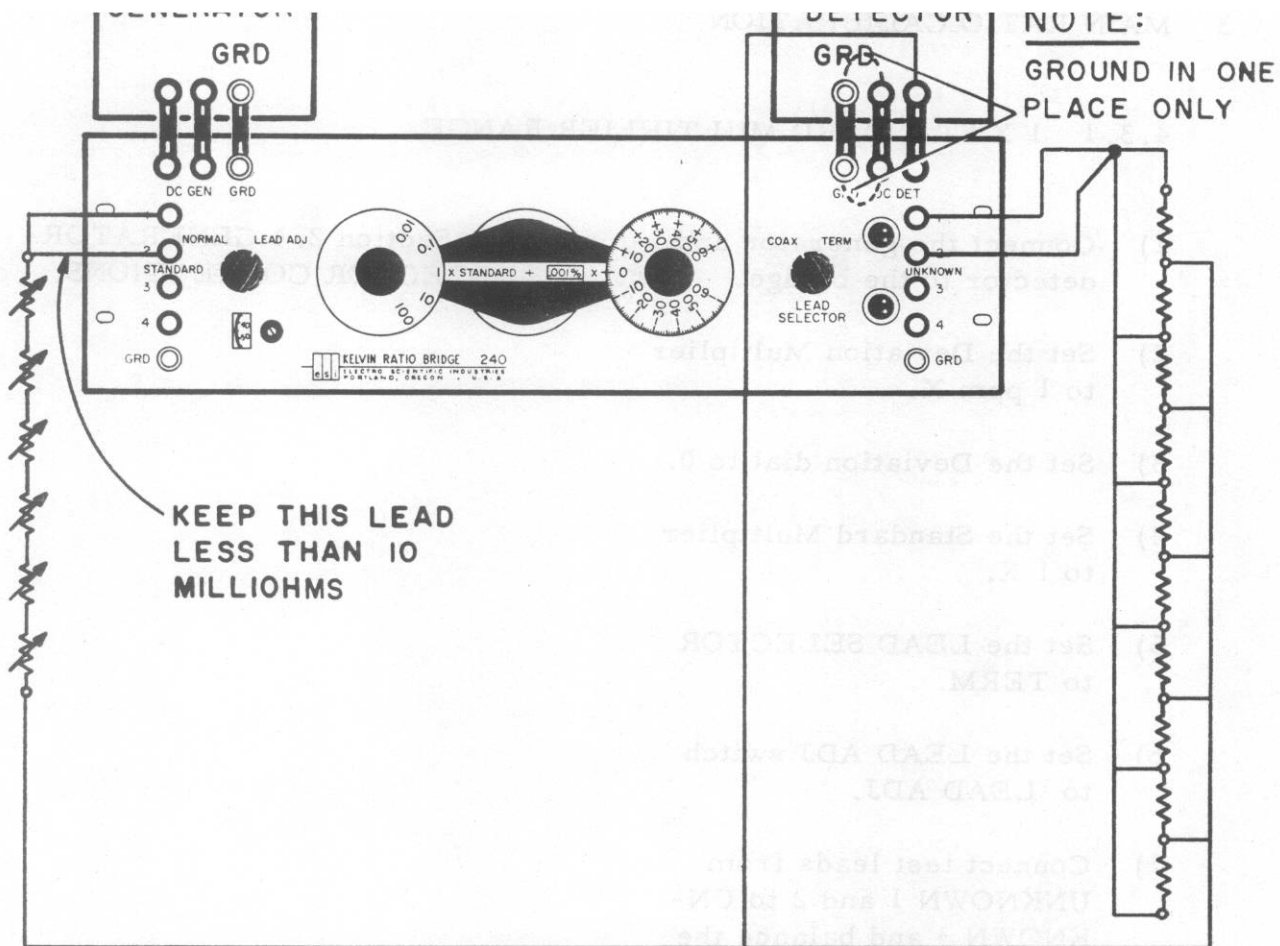

FIG. 4.3.1
- 9) Connect ten resistors of the 100K per step transfer standard (item 1 of Section 4.1.1) in parallel, and connect this parallel combination together with the 0.01 ohm per step decade resistor (item 3 of Section 4.1.1) to the bridge as shown in Fig. 4.3.1. The resistance of the lead to STANDARD 2 should be kept less than 10 milliohms.